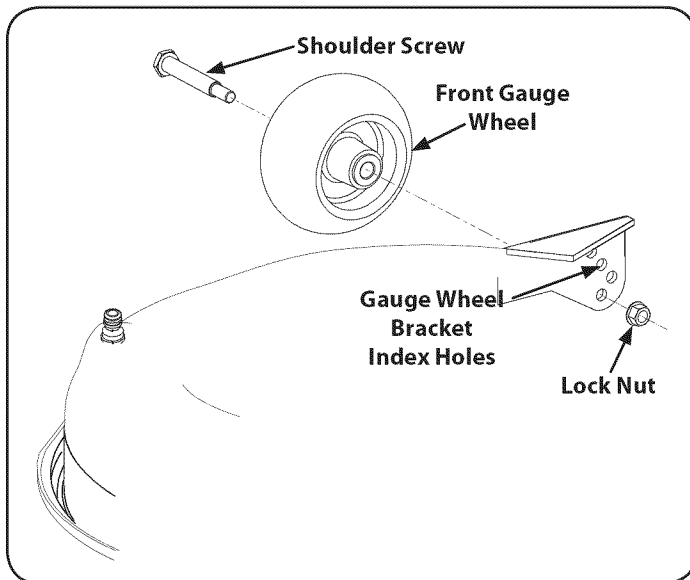

Figure 35
2. Remove the flange lock nut securing the front gauge wheel shoulder bolt to the deck. Remove the gauge wheel and shoulder bolt. Refer to Figure 35.
- e. While holding the belt and pulley together, rotate the pulley to the left (See Figure 35). Continue holding and rotating the pulley and belt until the belt is fully rolled into the PTO pulley.